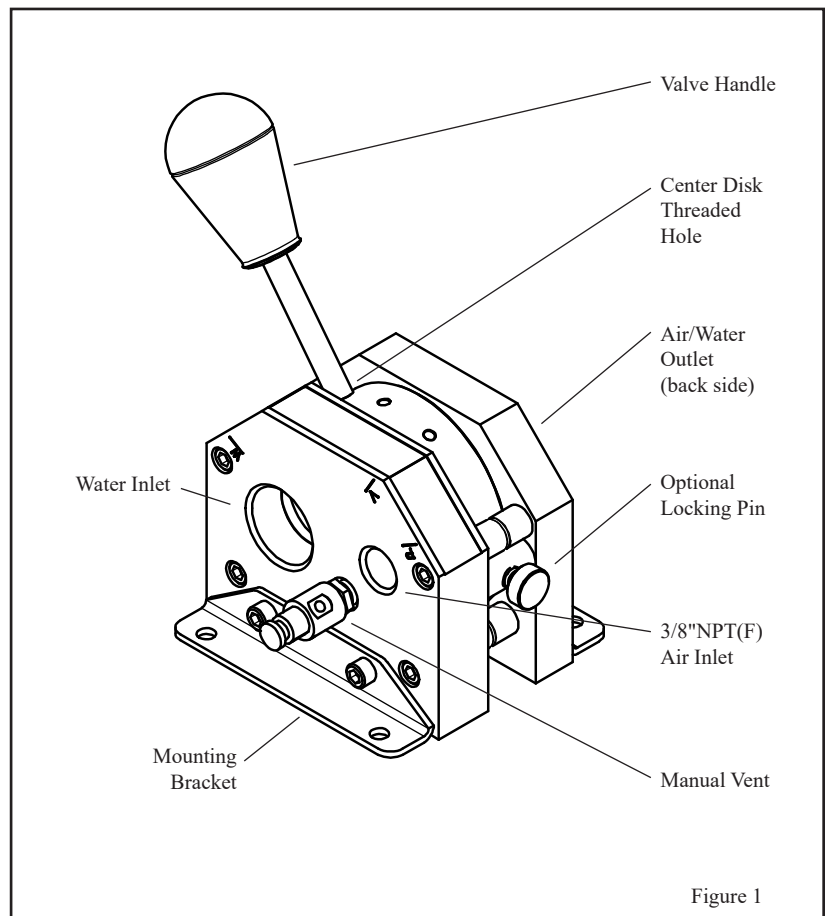

Figure 1
1. Apply thread locking compound (Loctite 638 or equivalent) to threaded end of valve handle. Screw valve handle into the center disk threaded hole. See figure 1.
3. Thread manual vent into the hole as shown in figure 1. (No additional thread sealant is required.)